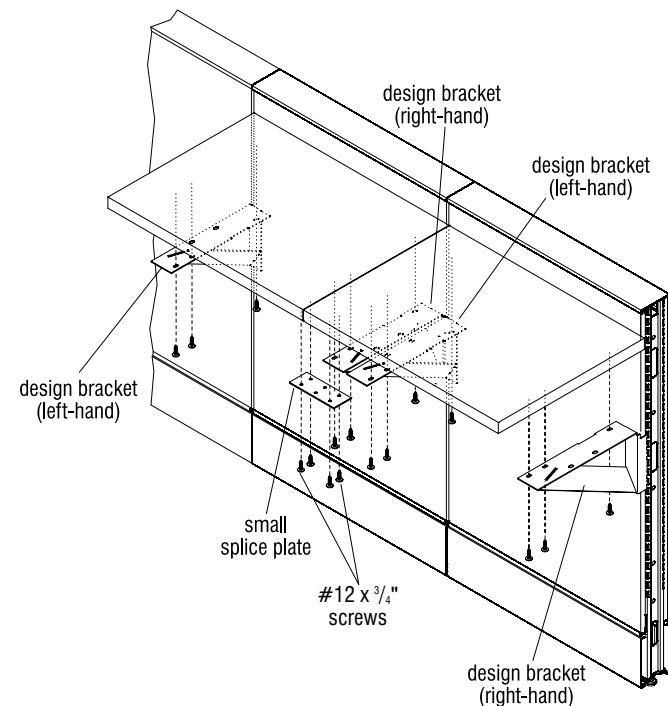

Figure 8 - Design Bracket with 18" Worksurface with 74P Edge
5. To keep worksurfaces level, install a small splice plate between worksurfaces as illustrated. Position the splice plate centered under the installed worksurfaces and use mounting holes as template, then mark mounting hole locations. Pre-drill  $\frac{1}{8}$ " dia. mounting holes to a depth of  $\frac{1}{2}$ " only, taking care to not drill too deep which may damage the worksurface (Figure 8).
6. Install worksurface splice plate to underside of worksurfaces using four #12 x  $\frac{3}{4}$ " screws. Take care to not over-tighten screws (Figure 8).